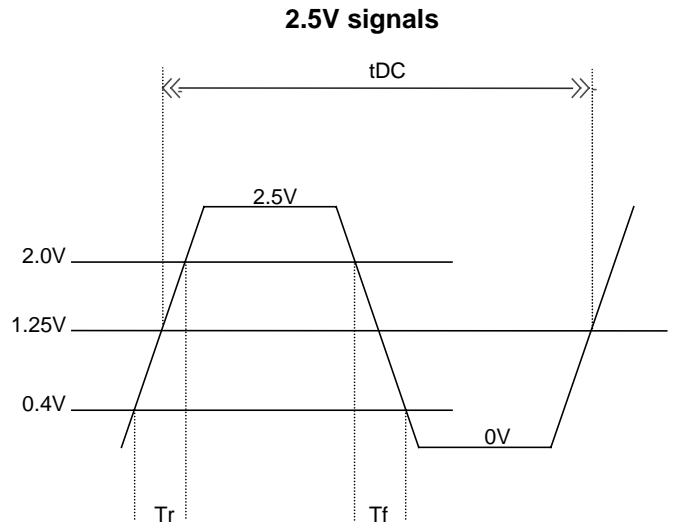

Fig. 9B
- Note 7:** Probes are placed on the pins, and measurements are acquired between 0.4V and 2.4V for 3.3V signals and between 0.4V and 2.0V for 2.5V signals (see Fig.9A and Fig.9B)